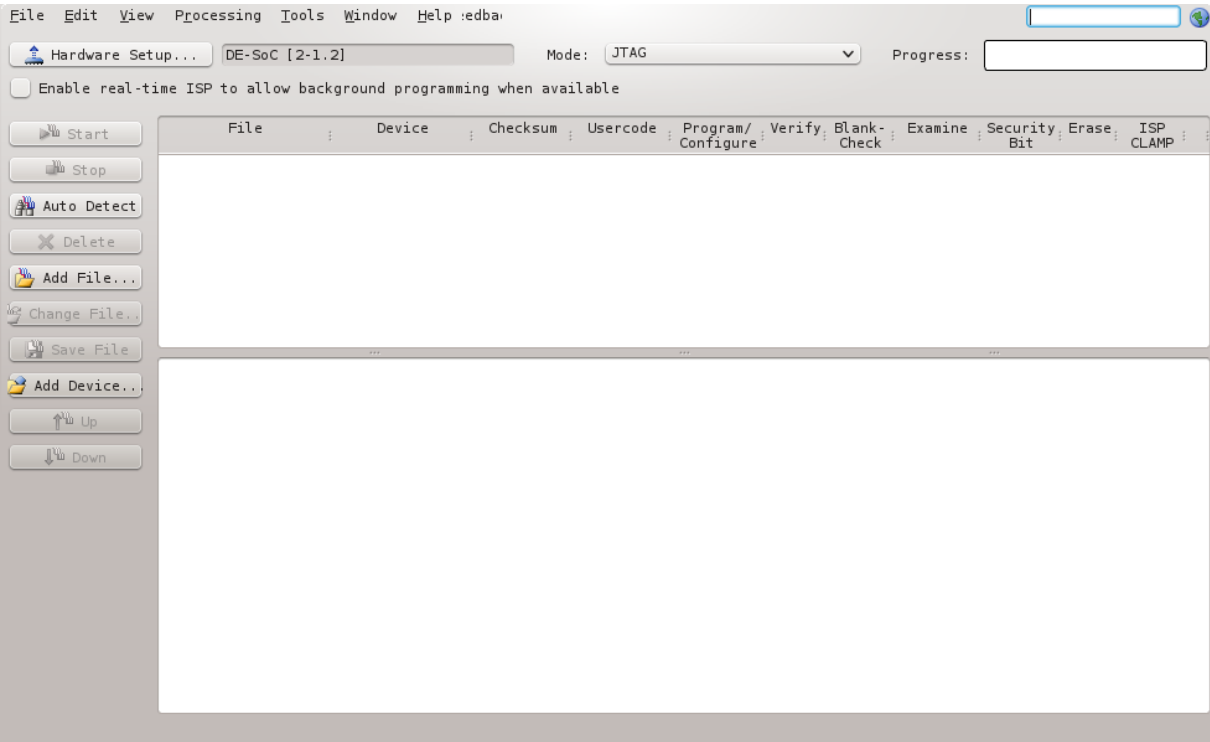
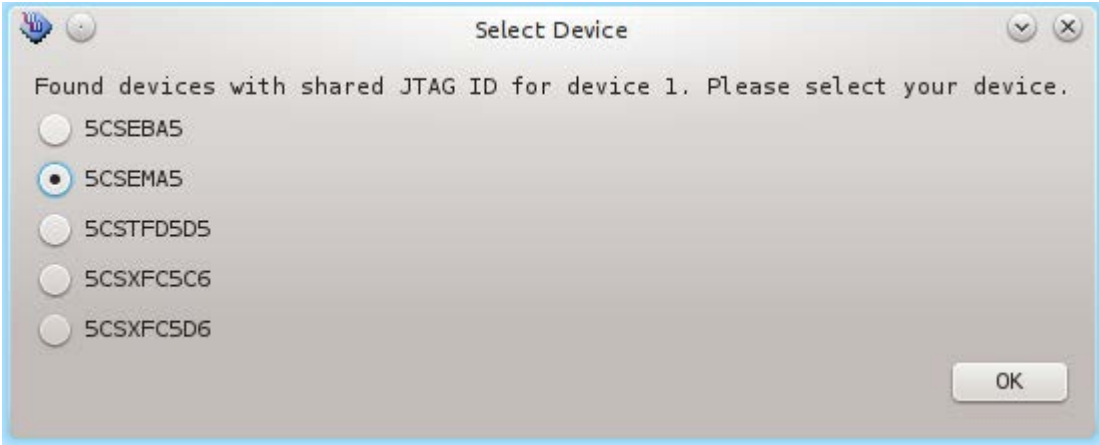

Figure 8-16. Quartus II Programmer
Figure 8-17. FPGA Selection
39. Choose the “Auto Detect” button on the left of Figure 8-16, then choose “5CSEMA5”, as shown in Figure 8-17.